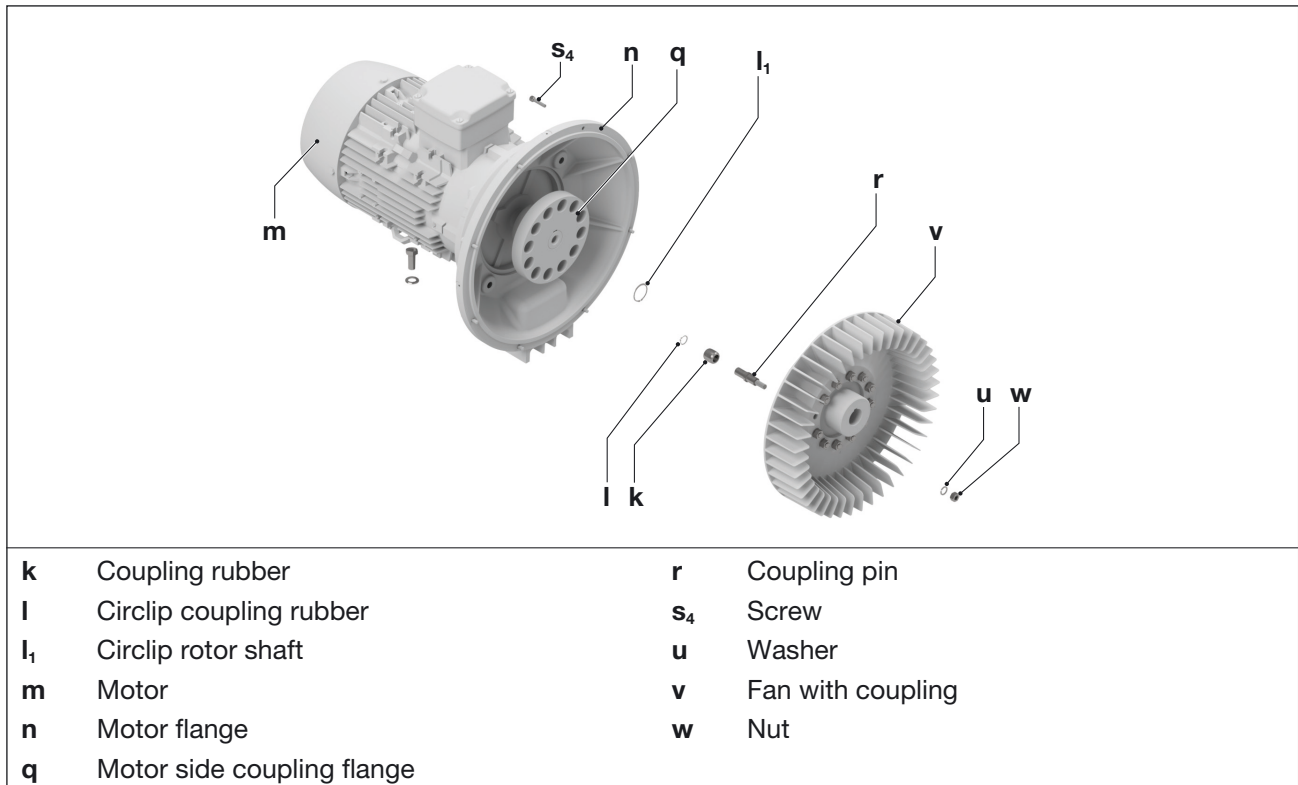

Fig. 11 Coupling
The coupling rubbers (Fig. 11/k) are subject to wear and must be checked regularly (at least once a year). Worn coupling rubbers are noticeable by a knocking noise when starting the pump.
- c) Undo the screws (Fig. 11/s4) on the motor flange (Fig. 11/n).
- d) Remove the motor axially with the coupling half (Fig. 11/q) on the motor side from the motor flange (Fig. 11/n) and suspend with the lifting gear.
- e) Check the coupling rubbers (Fig. 11/k) for damage and wear. Replace damaged coupling rubbers. To do this, remove the circlips (Fig. 11/l1) and the coupling rubbers (Fig. 11/k) from the coupling pin (Fig. 11/r). Do not remove the spacer ring (Fig. 11/p).
- f) Check the coupling pin for damage and wear. Replace the damaged coupling pin. To do this, remove the circlip (Fig. 11/l1), Pull the fan with coupling (Fig. 11/v) off the rotor shaft. Loosen the nuts (Fig. 11/w) with washers (Fig. 11/u). Replace the coupling bolts and reattach them to the fan with nuts and washers.
- g) Push the fan with coupling (Fig. 11/v) back on the rotor shaft and secure it with the circlip (Fig. 11/l1).
- h) Push the new coupling rubber (Fig. 11/k) on the coupling pins (Fig. 11/r). Then fit the circlips (Fig. 11/l1).
- i) Push the motor with the motor-side coupling half back on and fasten it to the motor flange (Fig. 11/n) axially with the screws (Fig. 11/s4). Tightening torque: 25 Nm.